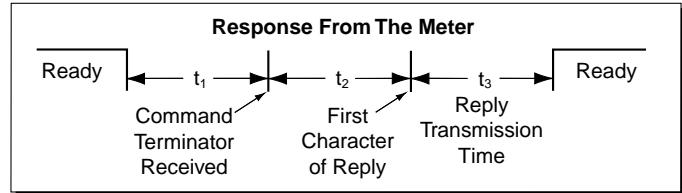

Figure 5 – Timing Diagram
See Figure 5. At the start of the time interval t_1 , the sending device (PC) prints or writes the string to the com port, thus initiating a transmission. During t_1 the command characters are under transmission and at the end of this period the command terminating character is received by the controller. The time duration of time interval t_1 is dependent on the number of characters and baud rate of the channel: